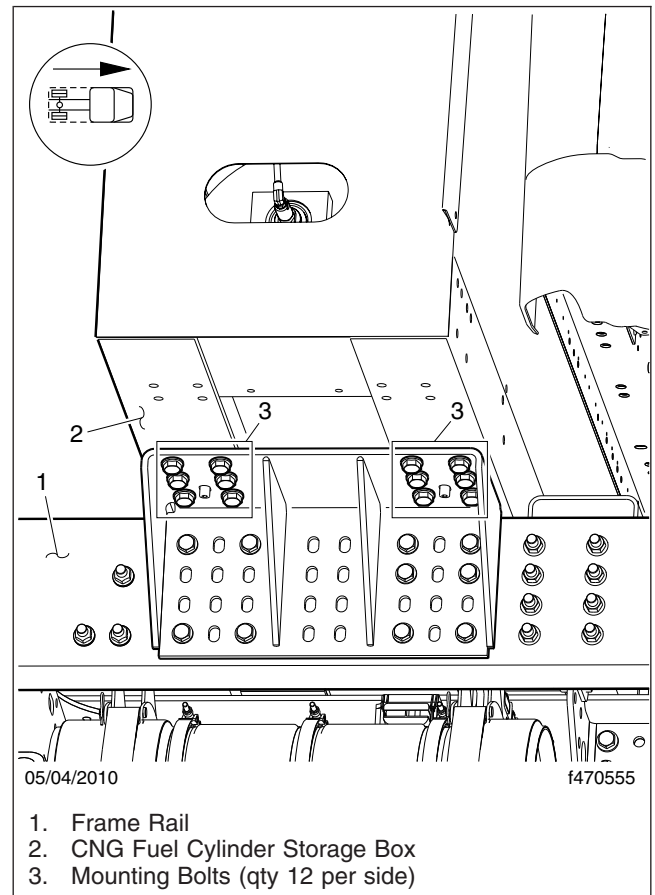

Fig. 11, Fuel Cylinder Storage Box Mounting Bracket (passenger side shown)
3. Ensure that the fuel cylinder storage box is secured to the frame. Inspect for any signs of looseness. If necessary, tighten the storage box mounting bolts 160 lbf-ft (217 N·m). See **Fig. 11**.
NOTE: During initial pre-delivery inspection (PDI), tighten the storage box mounting bolts (shown in **Fig. 11**) 180 lbf-ft (244 N·m).